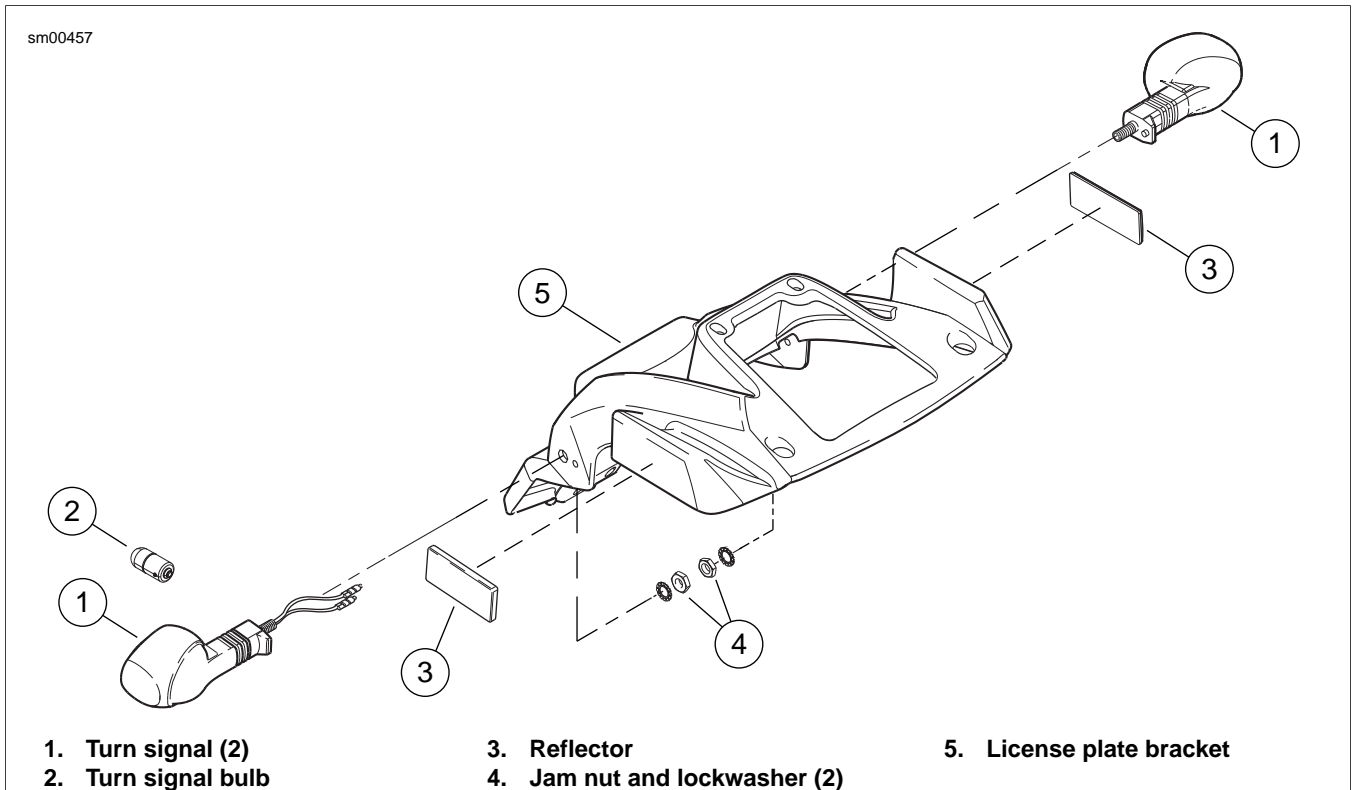

Figure 6-56. Rear Turn Signals: Ulysses
4. See Figure 6-56. Remove jam nut and lockwasher (4).
5. Remove turn signal from license plate bracket (5).
1. See Figure 6-56. Insert bullet connectors through license plate bracket.